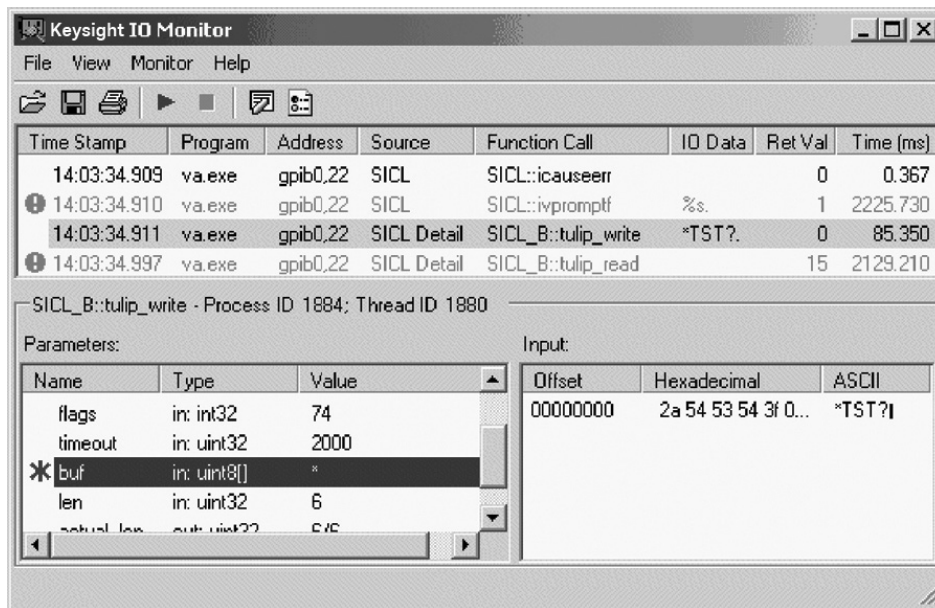

Figure 3. T&M Toolkit's IO Monitor traces I/O layers for Keysight's VISA, VISA COM, SICL and SICL Detail, helping you find bottlenecks in your source code
- **IO Monitor:** This utility makes it much easier to use instrument-control software and instrument drivers—IVI-COM, VXIplug&play—and diagnose problems by letting you watch both the underlying direct I/O commands that are sent to the instrument and the resulting data that is returned (Figure 3).